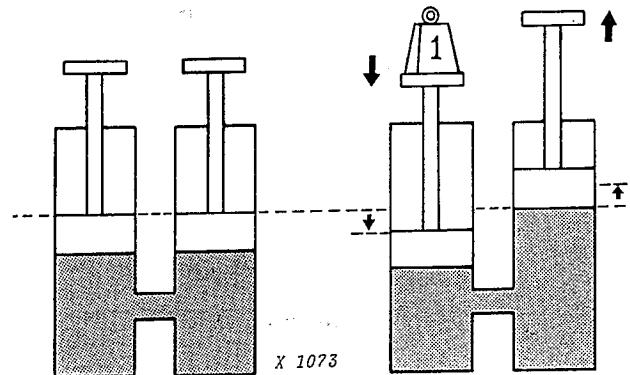

Fig. 3—Liquids Transmit Applied Pressure in All Directions
**LIQUIDS TRANSMIT APPLIED PRESSURE IN ALL DIRECTIONS.** The experiment in Fig. 2 shattered the glass jar and also showed how liquids transmit pressure—in all directions when they are put under compression. This is very important in a hydraulic system. In Fig. 3, take two cylinders of the same size (one square inch) and connect them by a tube. Fill the cylinders with oil to the level shown. Place in each cylinder a piston which rests on the columns of oil. Now press down on one cylinder with a force of one pound. This pressure is created throughout the system, and an equal force of one pound is applied to the other piston, raising it as shown.